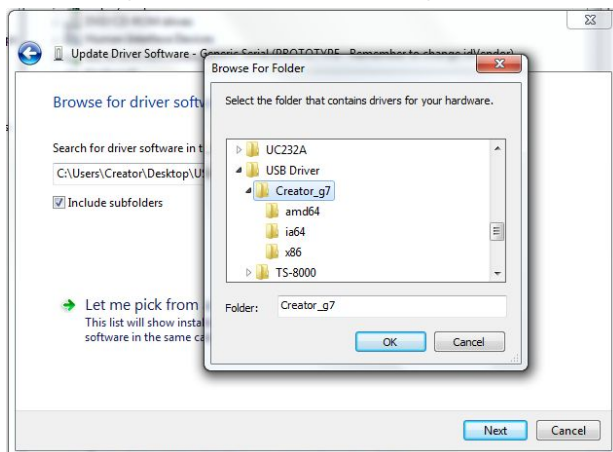
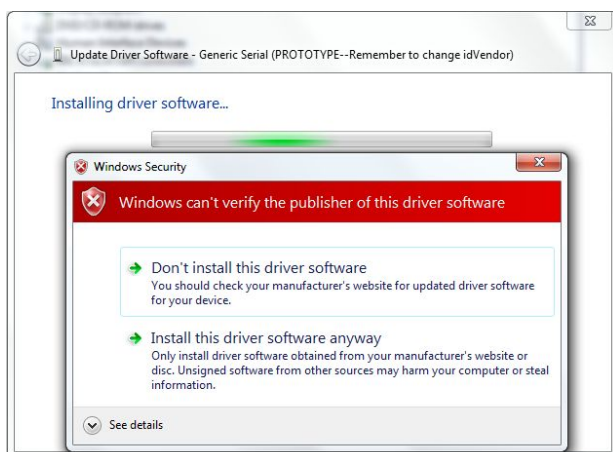

Figure 1-4
Figure 1-5
Remove the hook before the "Search removable media (floppy, CD_ROM)", and then check the "Include this location in the search (0)", click "Browse" and select the drive storage path, click OK, as Figure 1-4, as shown in Figure 1-5: